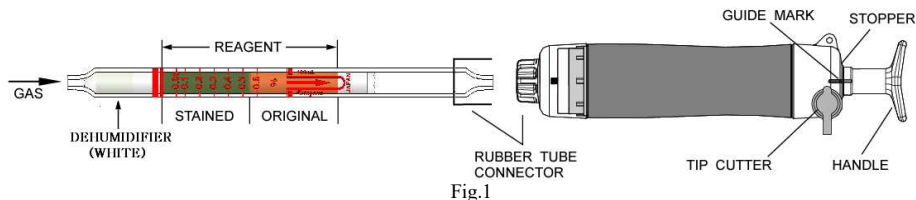

Fig.1
- ② Insert the detector tube into the aspirating pump securely as shown in Fig.1. (Arrow mark shall point to the pump.)
- ③ Align the guide marks on the handle and stopper of the aspirating pump.
- ④ Pull the pump handle at a full stroke until it locks and wait for 1 minute or until the completion of sampling is confirmed with the flow indicator of the pump. (See descriptions about the flow indicator in the instructions of the pump.)
- ⑤ On completion of sampling, read the scale at the maximum point of the stained layer.
- ⑥ When the concentrations are below the scale range, 4 pump strokes can be used to determine concentrations of 0.01 to 0.12%. Then multiply the reading value by 0.2